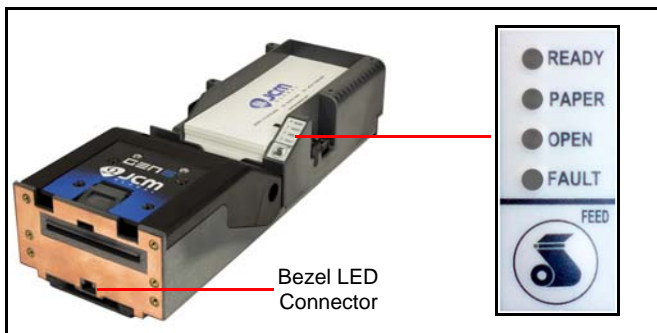

Figure 2 GEN5 Printer Keypad, LEDs and FEED Button
The GEN5 Printer features a Keypad with LED Status Indicators and a **FEED** Button (Figure 2). Printer Status indicators include a Front Bezel Light and the four (4) Keypad LEDs. Refer to Table 1 below for GEN5 Keypad LED Status Codes.
Most Printer Errors occur due to paper running out or user intervention. See Table 4 below for Error Descriptions and recommended solutions. Refer to Figure 2 and Table 1 (Page 3) for Error Indicators.